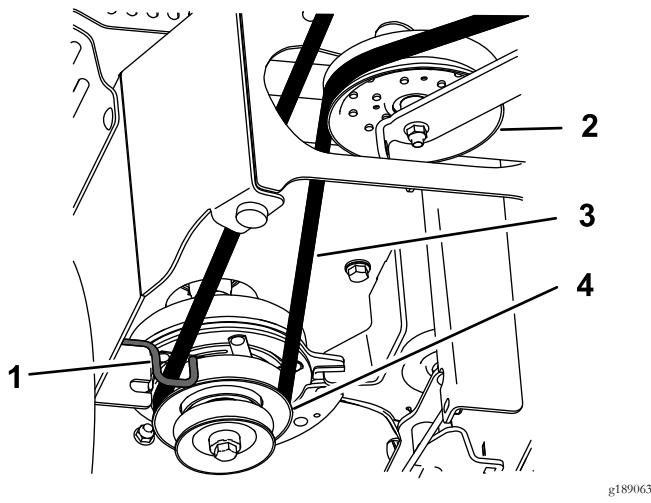

**Figure 34**
7. Detach the extension spring (Figure 34).
9. Route the new belt around the clutch pulley, through the belt guide, along the idler pulley, and around the deck pulley (Figure 34 and Figure 35).
10. Install the extension spring (Figure 34).